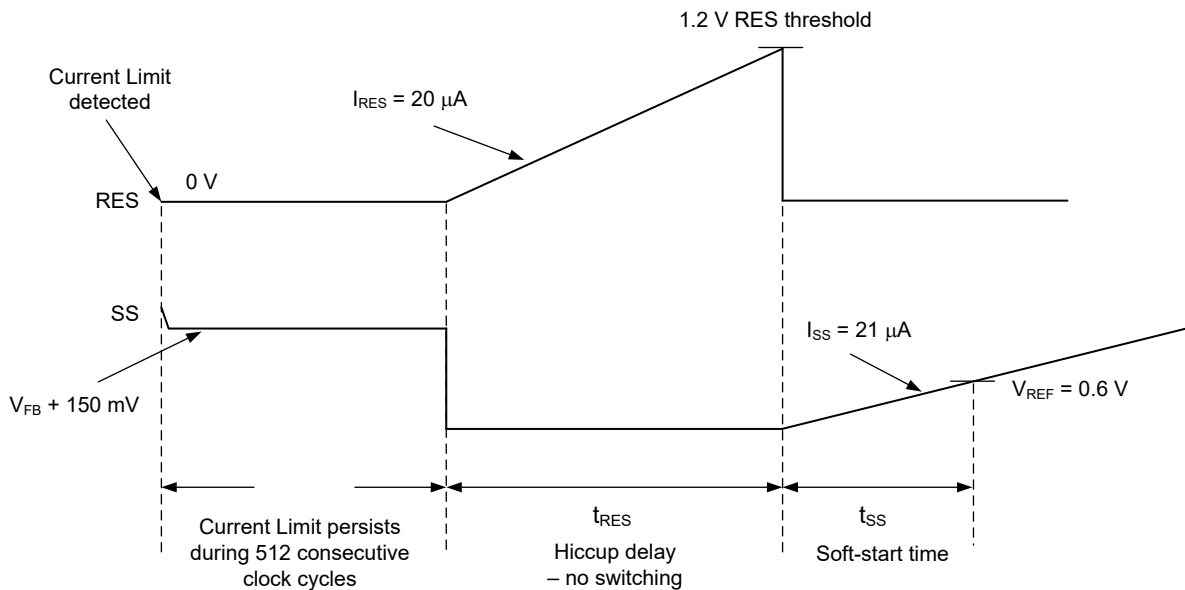

Figure 9-6. Hiccup Mode Timing Diagram
The LM5143A-Q1 includes an optional hiccup mode protection function that is enabled when a capacitor is connected to the RES pin. In normal operation, the RES capacitor is discharged to ground. If 512 cycles of cycle-by-cycle current limiting occurs, SS is pulled low and the HO and LO outputs are disabled (see Figure 9-6). A 20- μA current source begins to charge the RES capacitor. When the RES voltage increases to 1.2 V, RES is pulled low and the SS capacitor begins to charge. The 512-cycle hiccup counter is reset if four consecutive switching cycles occur without exceeding the current limit threshold. Separate hiccup counters are provided for each channel, but the RES pin is shared by both channels. One channel can be in hiccup protection while the other operates normally. In the event that both channels are in an overcurrent condition triggering hiccup protection, the last hiccup counter to expire pulls RES low and starts the RES capacitor charging cycle. Both channels then restart together when $V_{RES} = 1.2 \text{ V}$. If RES is connected to VDDA at power up, the hiccup function is disabled for both channels.
- t_{RES} is the specified hiccup delay as shown in Figure 9-6.